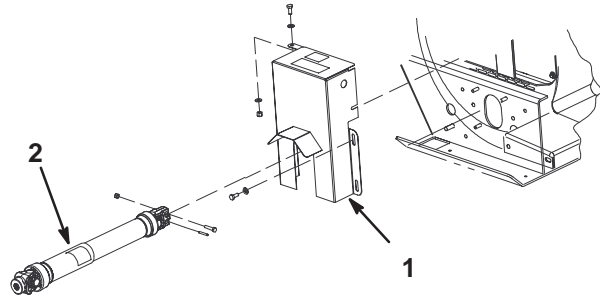

Figure 6
1. Remove the 5 capscrews, 6 washers, and nut securing the belt guard to the blower frame (Fig. 6).
2. Slide the drive shaft onto the traction unit PTO shaft (Fig. 6). Align the mounting holes in each shaft and slide them together.
3. Secure them with a roll pin and 2 capscrews and nuts (Fig. 6).
7. Install the belt shaft guard with the fasteners previously removed (Fig. 6).